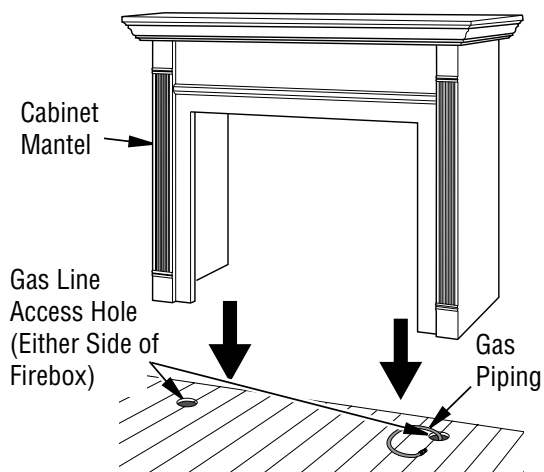

Figure 11 - Installing Cabinet Mantel (Mantel May Vary From Illustration)
2. Install gas piping to firebox location. See Gas Line Installation on Page 14. You may have to cut an access hole in the floor or wall to run gas line to firebox. Make sure to locate access hole so cabinet mantel will cover it when installed (see **Figure 11**).